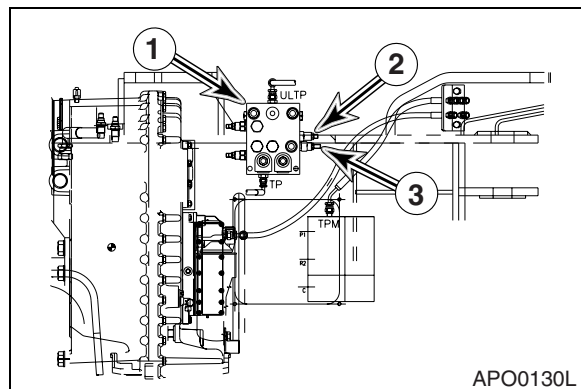

Figure 95
2. Adjust relief cartridge (3, Figure 95) on brake and pilot supply valve (1, Figure 95). Relief pressure should be set at 28^{+3}_{-2} kg/cm² (398^{+43}_{-30} psi).